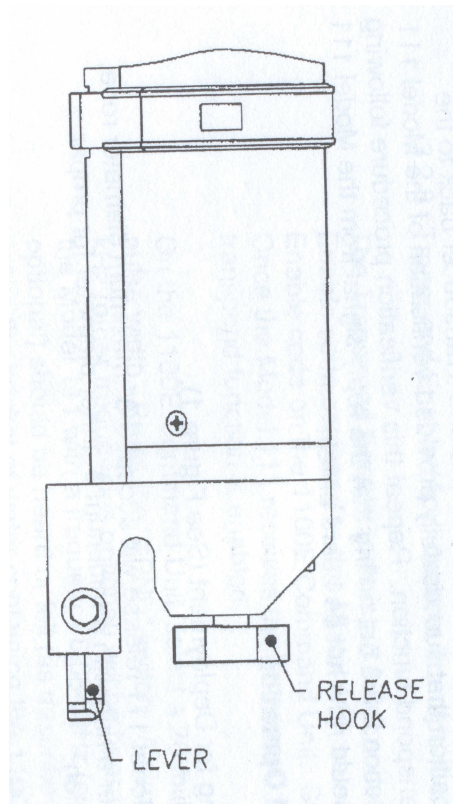
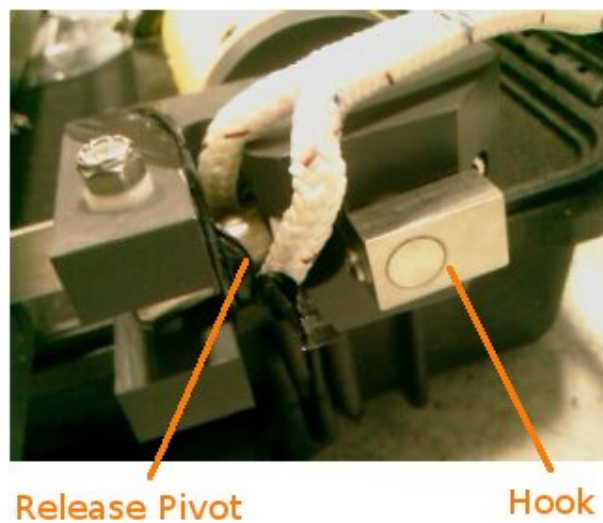

Figure 3.1: Drawing showing the location of the hook and the release pivot
Figure 3.2: Location of the hook and the release pivot in a reaser
1. Place some tape on the release pivot (or lever) in a way that it will not be blocking the rotation of the hook, in order to avoid permanent damage to the release motor. Figure 3.1 shows a drawing of the location of the hook and the release pivot and Figure 3.2 shows the same thing in a real image.